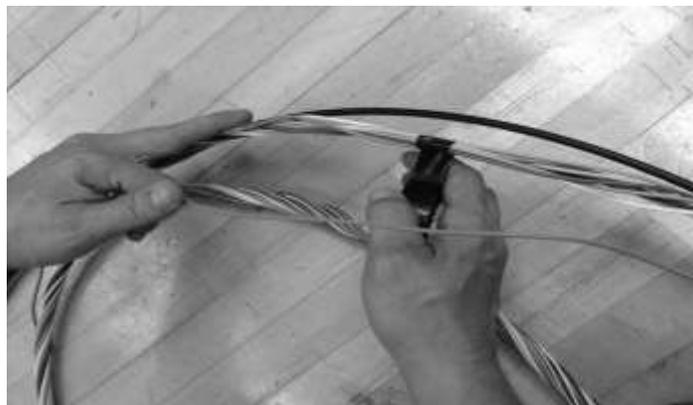
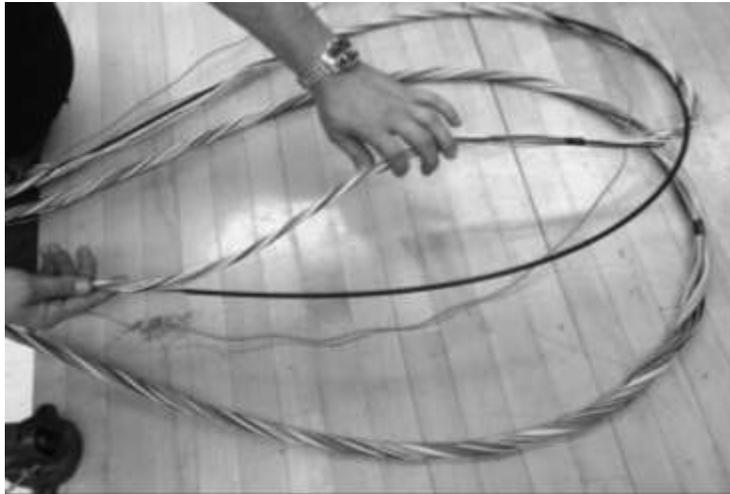

Figure 37 – Wrap a length of vinyl tape around the tubes at the ROL location.
Figure 38 – Unwind the inner layer of buffer tubes to expose the central strength member.
7.4 Begin unwinding the remaining buffer tubes to expose the central strength member. Wrap a length of vinyl tape around the tubes at the centermost ROL location (Figure 37). Continue unwinding the buffer tubes as far as possible as allowed by the location of the ROLs (Figure 38).